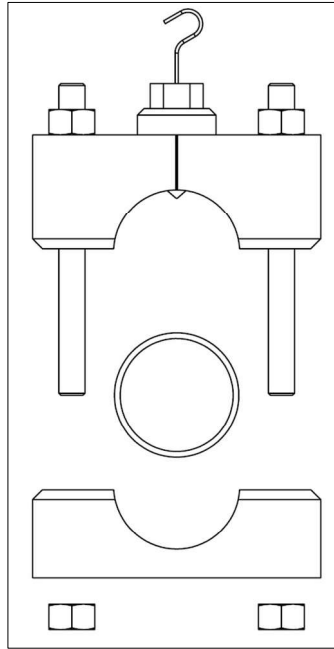

Figure 2
2. Remove the nuts from the bottom side of the PLIDCO Smith+Clamp and loosely place the PLIDCO Smith+Clamp so that it can be assembled around the pipe as shown in Figure 2.